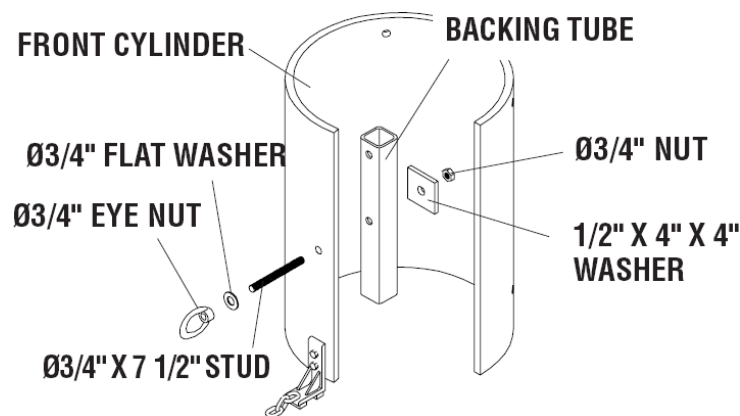

Figure 37
- 6) Pull system out to original length and reattach trigger (Figure 37).
- 7) Insert a new shear bolt (3/8 – 16 x 2" grade 8 hex cap screw) at the nose of the system (extras provided) (Figure 37).